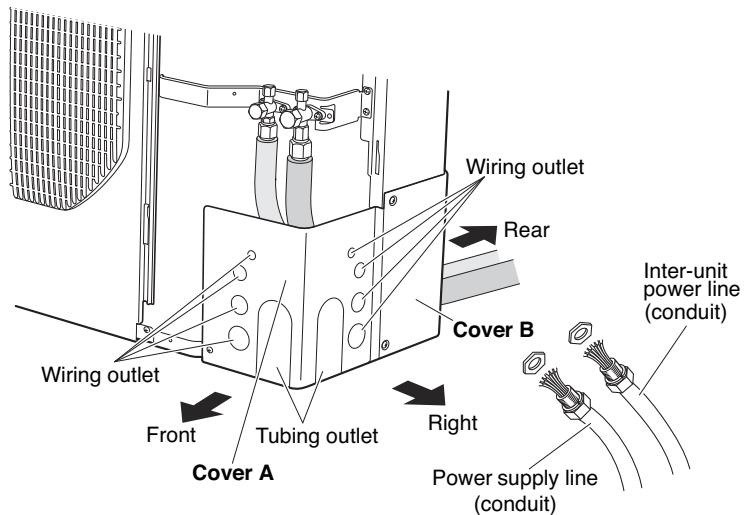

Fig.46d
- The tubing and wiring can be extended out in 3 directions: front, rear, and right. Use a nipper or similar tool to cut out the knockout holes for the inter-unit control wiring outlet, power wiring outlet, and tubing outlet from the appropriate covers A and B. (Fig. 46d)